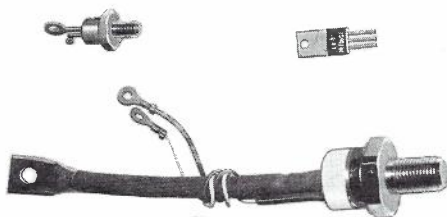

FIG. 38. TYPICAL THYRISTOR CASES.
10.3 SHAPES. Fig. 38 shows some of the semiconductor housings most commonly used for thyristors. These cases may also be used for other devices, such as transistors.